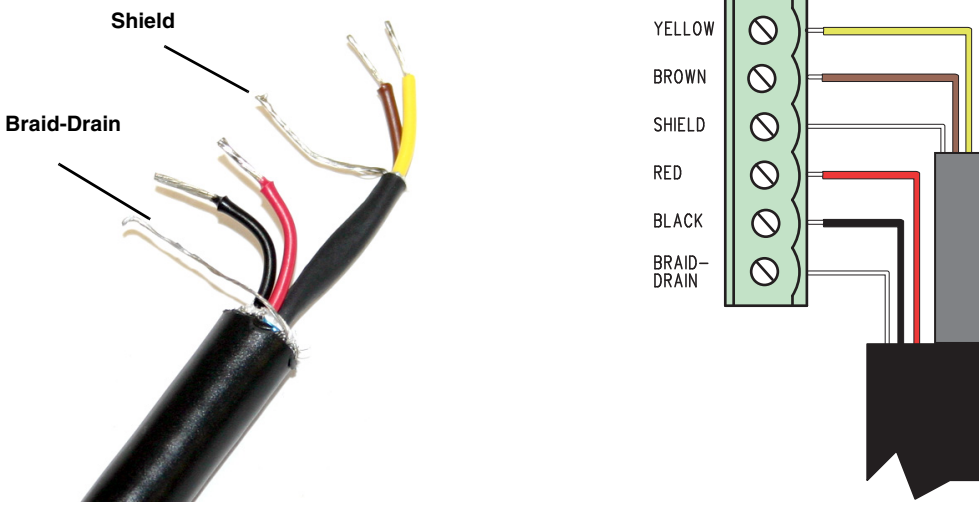
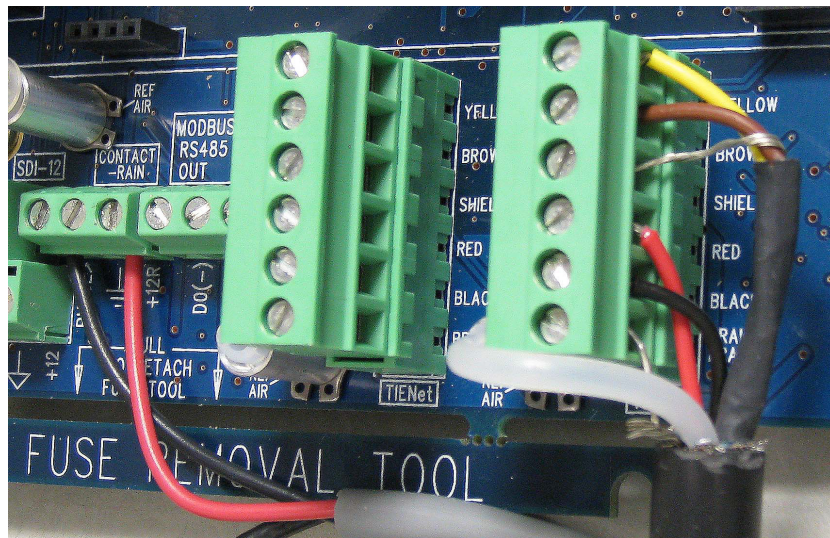

Figure 2-3 TIENet Device terminal connections
Figure 2-4 Attach wired terminal strip to case board socket
4. Attach the wire ends to the terminal strip as shown in Figure 2-3, then press the terminal strip back down into its socket on the case board, as shown in Figure 2-4, taking care not to strain any wire connections. Gently tug each wire when finished, to verify secure connection to the screw terminals.